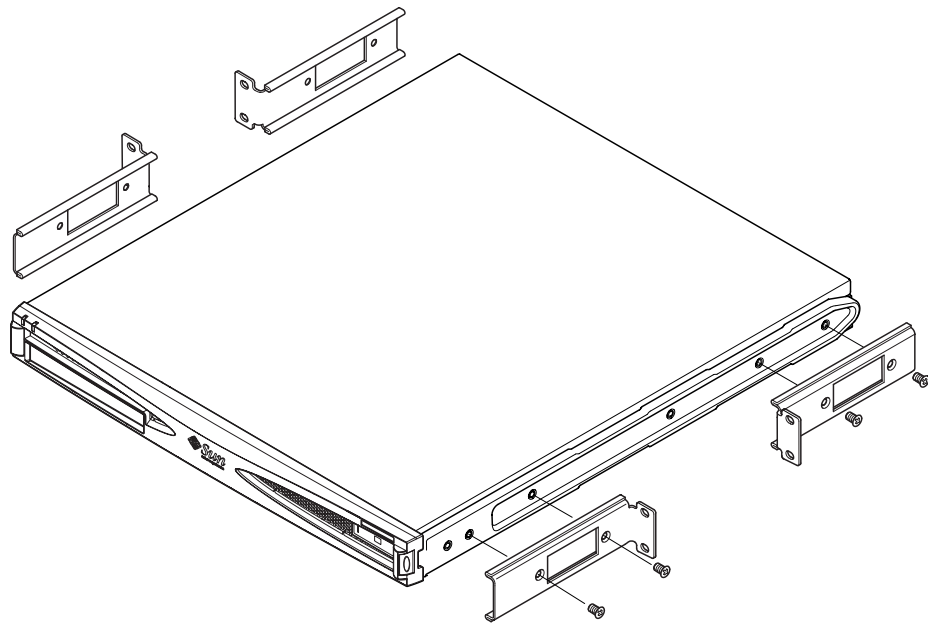

FIGURE 5-11 Fitting the Fixed Mounting Brackets
2. Remove the first, third, and fourth screws from the plastic slide-mounts on the sides of the server (see FIGURE 5-11).
Use the Phillips-head countersunk screws provided. See FIGURE 5-11, but do *not* fit the rear brackets yet.